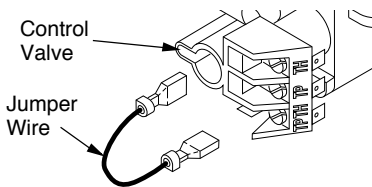

Figure 27 - Disconnecting Wires From Control Valve
1. Disconnect jumper wire from control valve (see Figure 27).